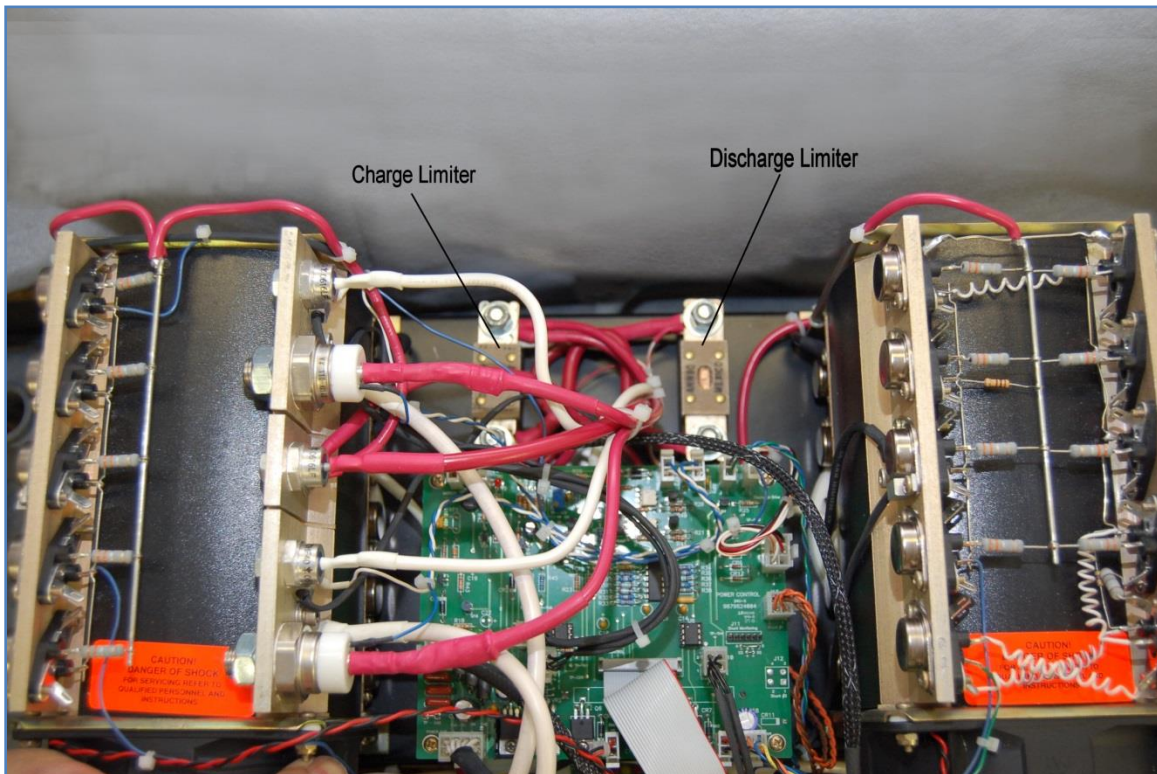

Figure 10 - Location of Current Limiters
- 14.3.2. Charge/Discharge – see [Figure 10]